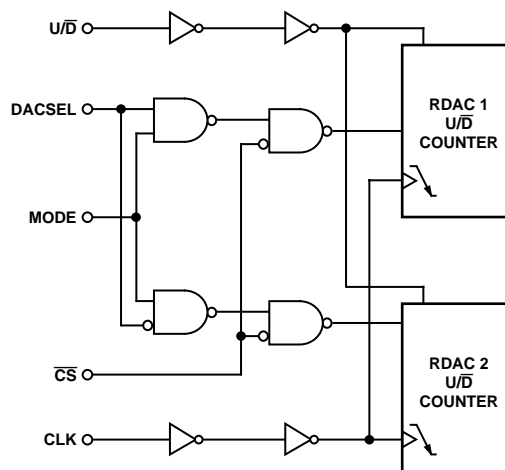

Figure 30. Detailed Digital Logic Interface Circuit
The AD5222 contains a push-button controllable interface. The active inputs are clock (CLK), \overline{CS} and up/down (U/\overline{D}). While the MODE, and DACSEL pins control common updates or individual updates. The negative-edge sensitive CLK input requires clean transitions to avoid clocking multiple pulses into the internal UP/DOWN counter register, Figure 30. Standard logic families work well. If mechanical switches are used for product evaluation a flip-flop or other suitable means should debounce them. When \overline{CS} is taken active low, the clock begins to increment or decrement the internal up/down counter, dependent upon the state of the U/\overline{D} control pin. The UP/DOWN counter value (D) starts at 40_H at system power ON. Each new CLK pulse will increment the value of the internal counter by 1 LSB until the full-scale value of $7F_H$ is reached, as long as the U/\overline{D} pin is logic high. If the U/\overline{D} pin is taken to logic low, the counter will count down, stopping at code 00_H (zero-scale). Additional clock pulses on the CLK pin are ignored when the wiper is at either the 00_H position or the $7F_H$ position. The detailed digital logic interface circuitry is shown in Figure 30.